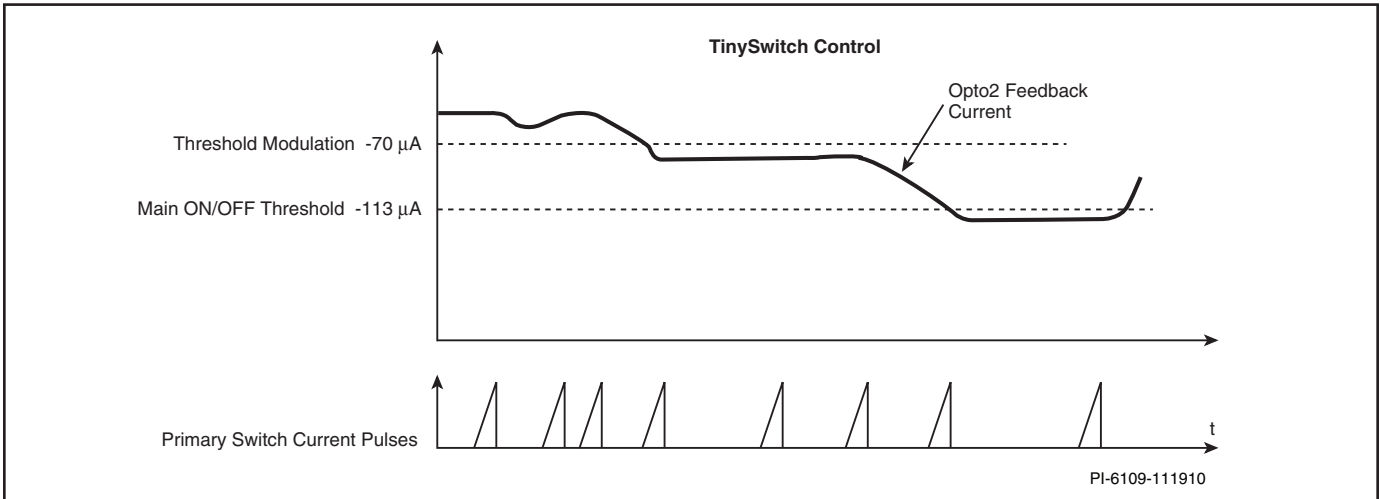

Figure 36. TinySwitch Control Illustrating ENABLE Pin Threshold Modulation.
The standby converter uses the ENABLE (EN) pin for feedback via ON/OFF current mode control in the same manner as TinySwitch-III. Figure 36 shows the relationship between ENABLE pin sink current and output response.